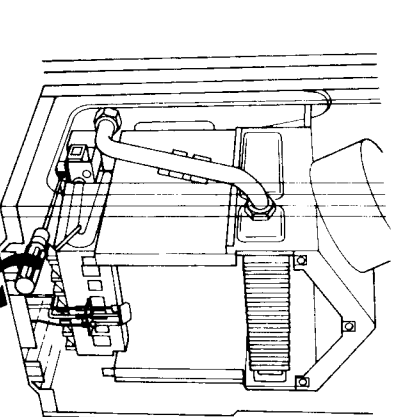

Fig. 25
Refer to fig 25
8.7.4 Remove four burner retaining screws (see fig 25).